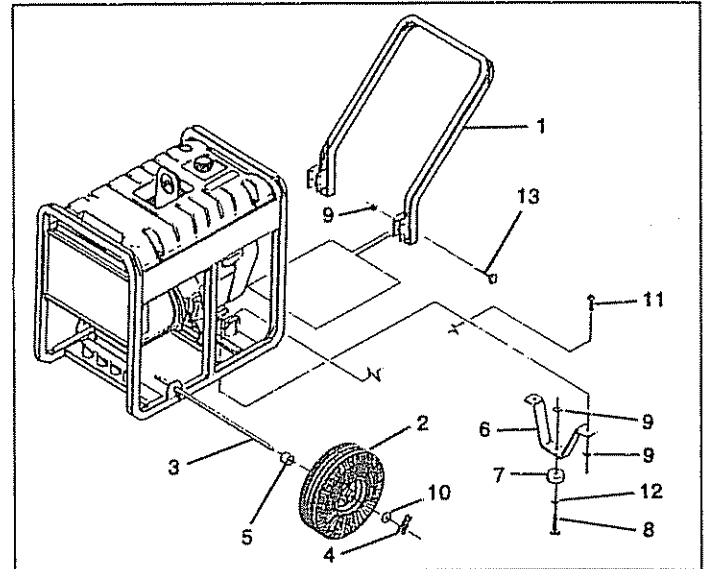

FIG. 1
- Slide axle (Item 3) through holes in the brackets provided on the generator cradle (Fig. 1) and then add the two spacers (Item 5) on each protruding end of the axle.